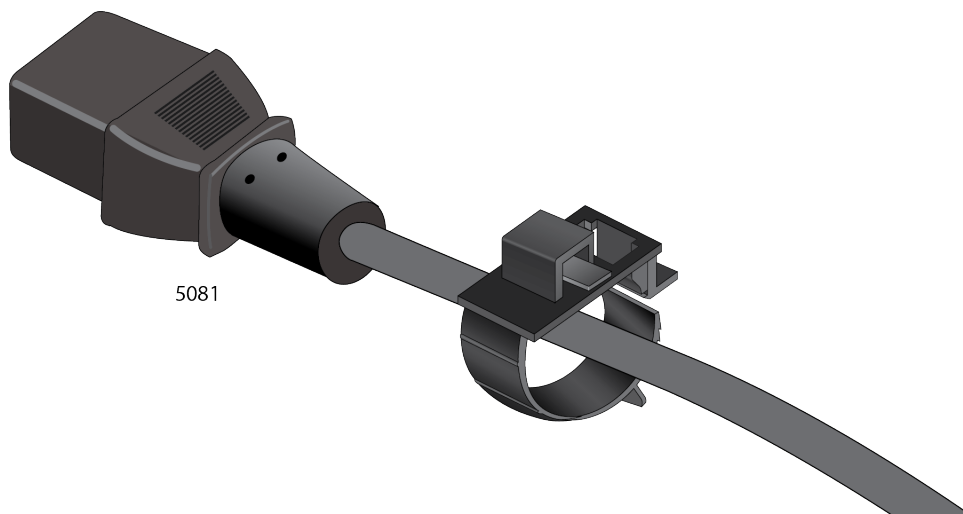

Figure 17. Fastening the Clamp near the Power Cord Connector
2. Attach the clamp loosely near the female connector of the power cord shown as in Figure 17.